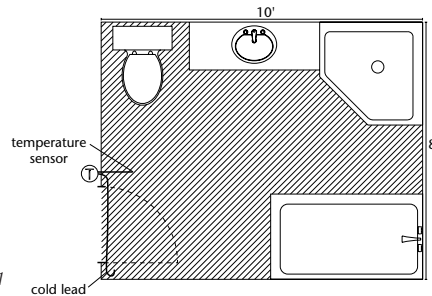

Fig. 4.1
- Identify all stationary elements (toilet, bath, shower, counters, drawers, and permanent furnishings) and never install the heating cable under these stationary elements (Fig. 4.1);